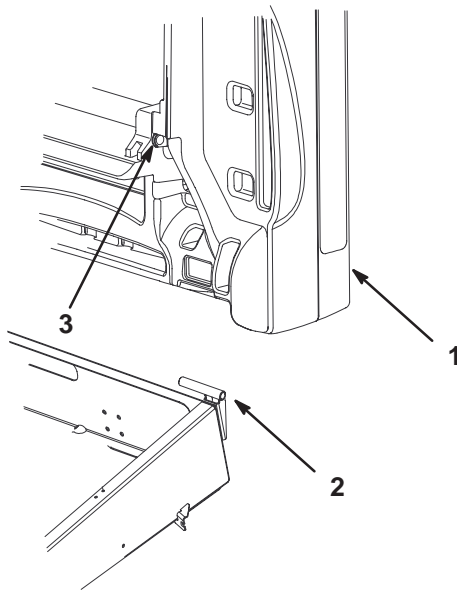

Figure 9
- Slide the cargo box mounting hole onto the pivot bracket (Fig. 9).